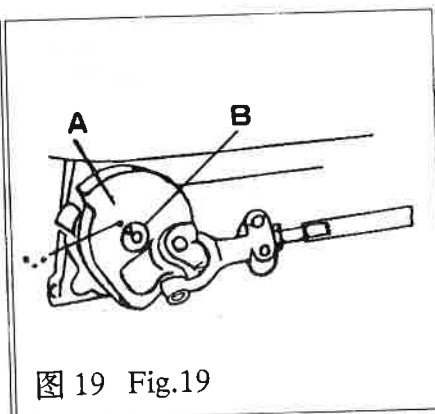

图 19 Fig.19
(1)钩线叉的基本位置 钩线叉的基本位置由钩线叉曲柄“A”与主轴“B”的位置决定。安装时应将曲柄上的圆点“·”标记对准主轴上的“V”形槽中心时,将钩叉曲柄固定(图19)。
Basic position of thread hook is decided by positions of crank "A" of thread hook and main shaft "B". When the mark "." on the crank coincides with the center of "V"groove on the main shaft, fix the crank of thread hook in place (Fig.19)
③调整钩线叉曲柄上的圆点“·”标记与主轴“V”形槽的相对位置(图 19)对钩线叉的左右位置也有影响。所以调整钩线叉的左右位置,必须根据具体情况,在上述三步骤中仔细选择和反复进行调整,才能达到最佳状态。
(2) Positioning of location for pronged thread hook
③ Adjustment of location of the mark "." on the crank of thread hook in relation to "V" groove on the main shaft (Fig.19) impairs the positioning of the location of the thread hook. Thus microadjustment of the position for thread hook shall be made accordingly. An ideal condition of operation can be acquired only when careful selection and
① 运动关系调整 通过调整钩线叉曲柄上圆点“·”标记相当于主轴“V”形槽位置(图19)。
① Adjustment of timing relation by regulating the position of the mark “·” on the crank of thread hook and “V” groove on the main shaft (Fig.19)